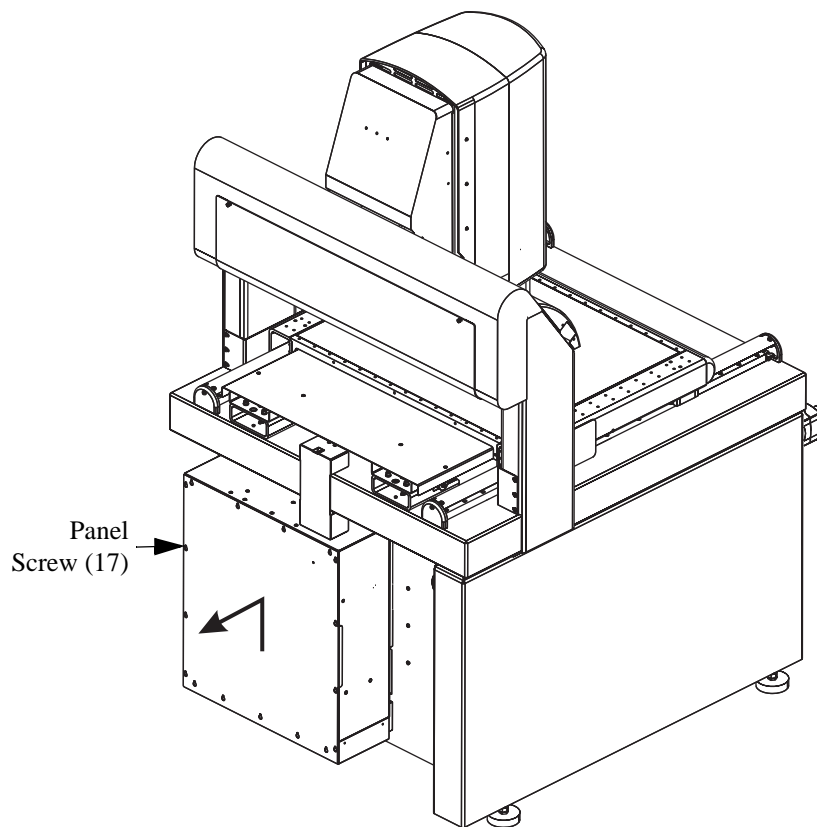

Figure 9-4 Removing the Electronics Enclosure Panel
3. Lift the panel straight up until it clears all of the slots. Then pull the panel away from the machine, as indicated by arrow in Figure 9-4.